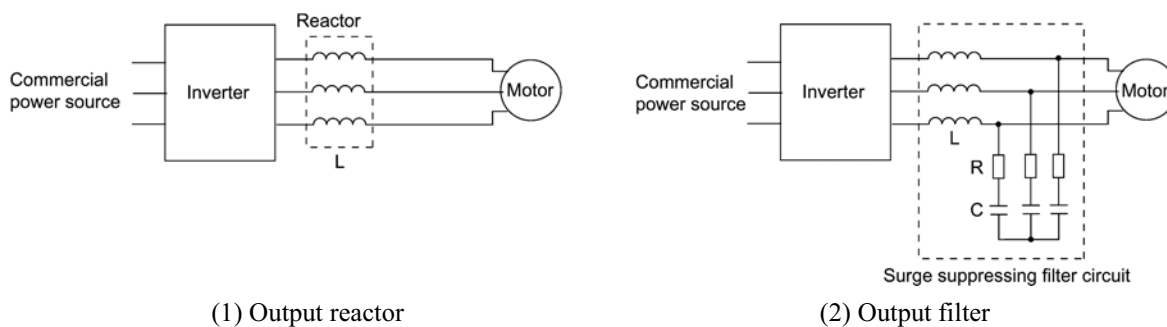

Figure C.3 Method to Suppress Surge Voltage
(1) Output reactor
If wiring length is relatively short the surge voltages can be suppressed by reducing the voltage rise time (dv/dt) with the installation of an AC reactor on the output (secondary) side of the inverter. (Refer to Figure C.3 (1).)
(2) Output filter
Installing a filter on the output side of the inverter allows a peak value of the motor terminal voltage to be reduced. (Refer to Figure C.3 (2).)